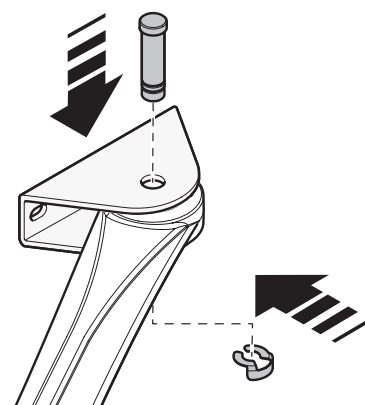

Fig. 10
01. Secure the gear motor arm to the bracket as shown in **Fig. 10** using the pin and seger supplied;